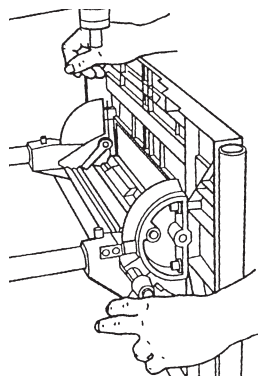
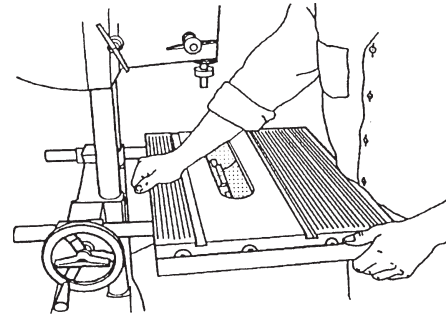

Figure 14
Figure 15
- Move the Worktable into the 90° position by loosening the Table Tilt Lock, as shown in Figure 14, then putting the Worktable in the horizontal 90° position, as shown in Figure 15. Retighten the Table Tilt Lock only enough to allow movement with firm pressure.